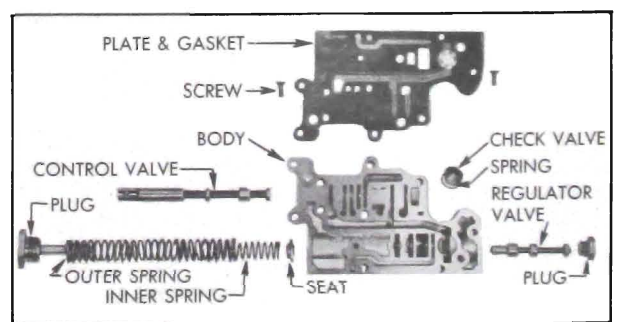

Figure 5-64—Valve Body Disassembled
3. Remove the large pressure regulator valve plug from valve body, using care because of the heavy spring pressure behind the plug. Remove the two springs and spring seat. See figure 5-64.